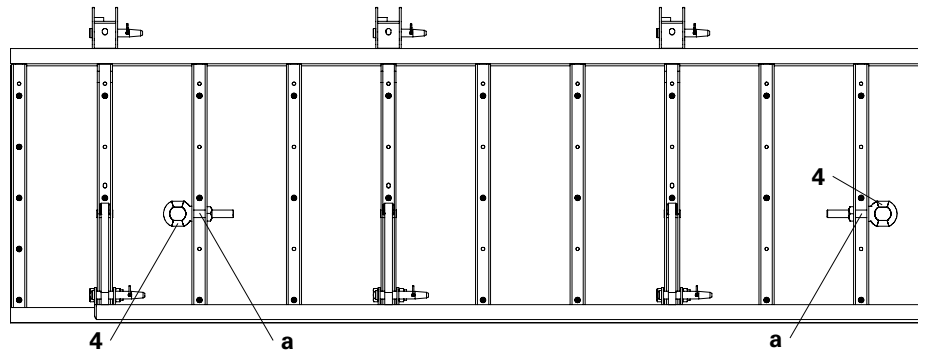

Fig. A3.03
2. Unscrew eye bolts M20 x 110 (4) on the second QUATTRO QES Column Frame and re-attach using the drilled holes (a). (Fig. A3.03)